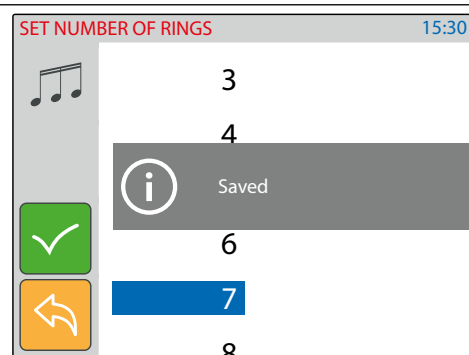

Fig. 12 Save the selected value
- Swipe among the values to select the required value then tap on the tick button to confirm (**Fig. 12**).
- A notice will inform that the value is saved (**Fig. 12**).